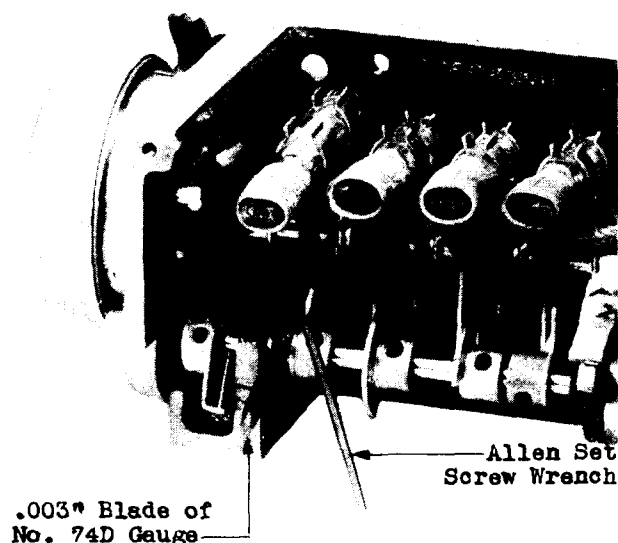

Fig. 6 - Adjusting End Play of Cam Shaft
- (1) If the cam shaft end play requirement is not met, loosen the A cam set screws with the Allen set screw wrench and shift the "A" cam as indicated in (2). Exercise care not to change the front to rear position of the A cam when making this adjustment.
- (2) Insert the .003 in. blade of the No. 74D gauge between the A cam and the adjacent spacer as shown in Figure 6. Take the play in the cam shaft up to the right and hold the A cam against the gauge. Tighten the set screws securely. Remove the No. 74D gauge.
- (3) If the cam shaft does not turn freely, rotate the cam shaft manually and if any switch leads touch the cams, position the leads with the fingers or the R-2217 tweezers, as required to give adequate clearance.
- (4) If the cam shaft still does not turn freely it may be due to dirt in the bearings or gears. Clean dirty gears and bearings as outlined in 3.01.
- (5) Check that requirements 2.05 and 2.08 are met.